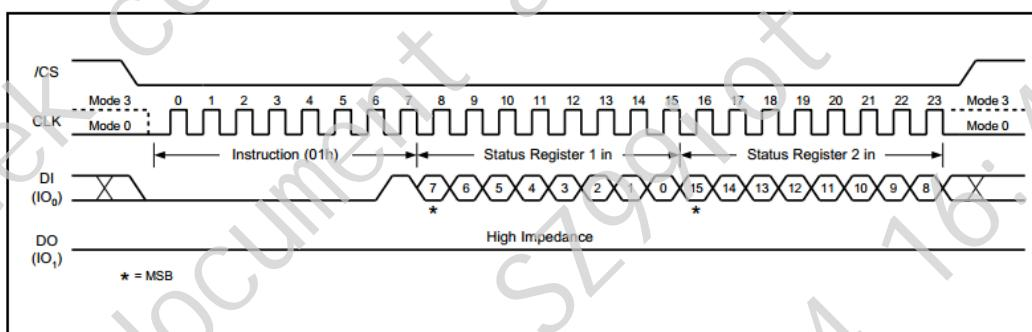
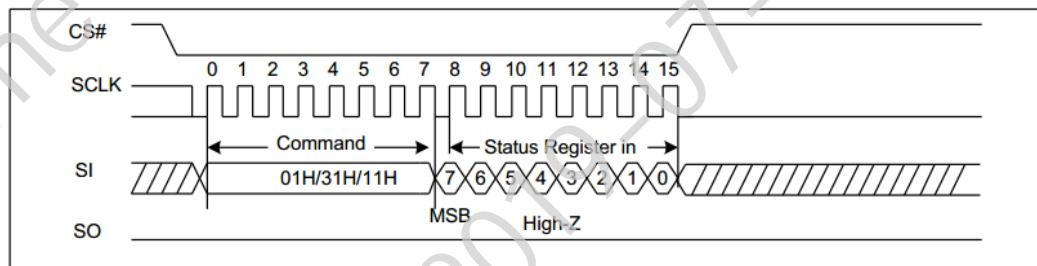

Fig 13-4 Write Status Register 1 & 2 sequence (FlashClass1, FlashClass2 when density < 2M)
Fig 13-5 Write Status Register 1/2 sequence (FlashClass2 when density > 2MB)
- For FlashClass1, the Write Status Register 2 is written together with the Write Status Register 1 using 0x01 as Fig 13-4 shows.
- For FlashClass2, when GD density is less than 2MB, the Write Status Register 2 is written together with the Write Status Register 1 using 0x01 as Fig 13-4 shows. When GD density is larger than 2MB, the Write Status Register 2 is written individually using 0x31 as Fig 13-5 shows.